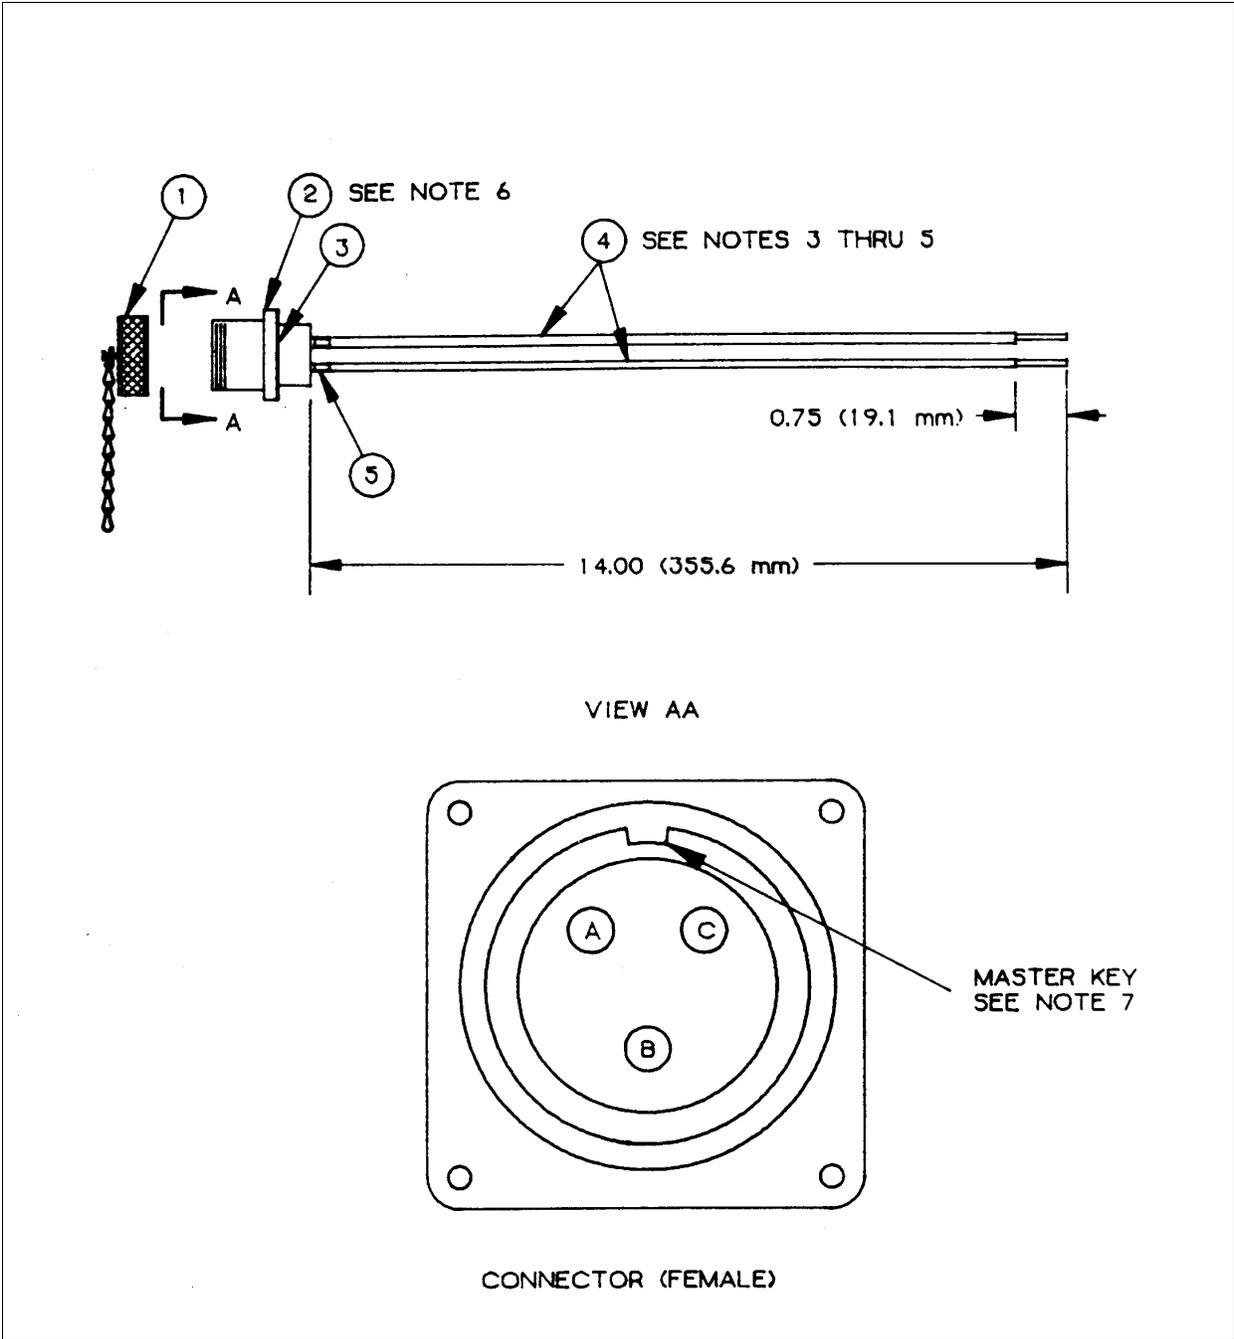

Figure F-13. Output Connector Assemblies, 60-Amp.
Component Legend for Figure F-13
c. Electrical connector (Figure F-13, Item 2) is furnished with the following: